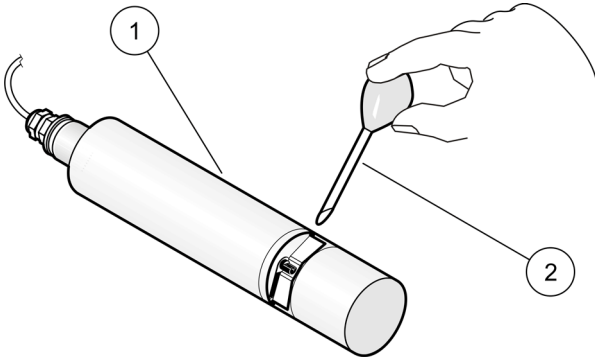

Figure 9 Check the calibration (tank version)
9. **Tank version:** Remove sensor from the tank, rinse the measuring path with water and fill it with standard solution (pipette), see Figure 9 on page 27.